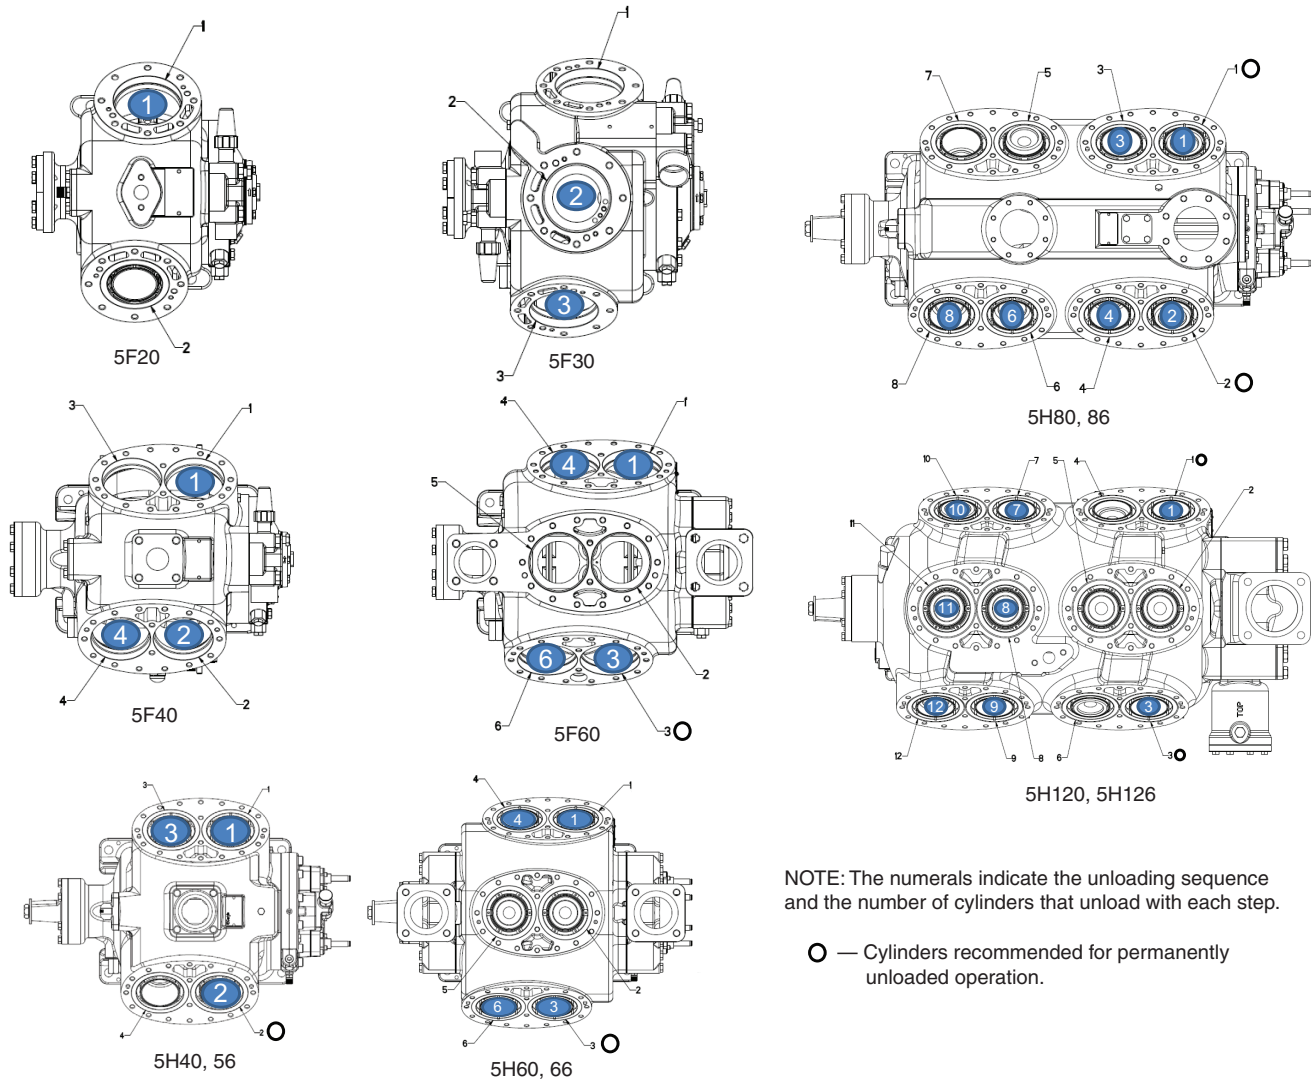

Fig. 11 — Cylinder Unloading Sequence
The cylinder unloading mechanism is powered by a compressor force-feed lubricating system. This feature assures unloading of all controlled cylinders at starting regardless of the position of the capacity control valve, since suction valves will be held in open position until the lubricating oil pressure reaches its normal operating level. Refer to Fig. 11 on page 12 for cylinder unloading sequence.
Operation of an open-drive compressor with its cylinders permanently unloaded requires field modification. 5F60 through 5H66 compressors can operate with one cylinder unloaded; 5H80 through 5H126 compressors can operate with 2 cylinders unloaded. Compressors are modified by removing the suction valve and suction valve springs from the cylinder(s) shown in Fig. 11.
* See Fig. 11 for cylinder number designations.